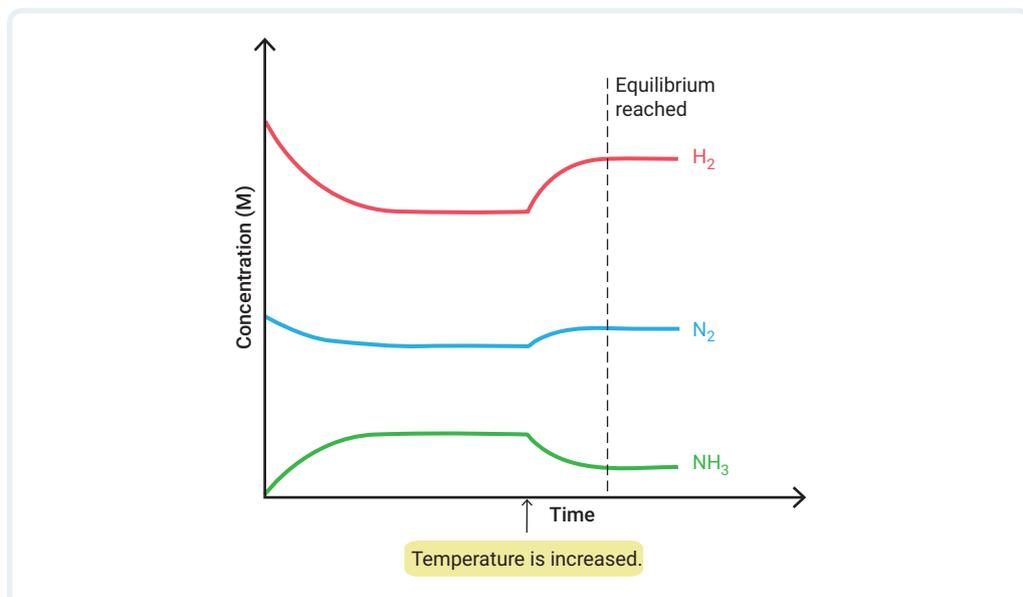

FIGURE 2.4.1 The effect of increasing temperature at equilibrium for the reaction involving the production of ammonia
- This will favour the reverse reaction, resulting in an increase in the concentrations of hydrogen and nitrogen gas and a decrease in the concentration of ammonia (Figure 2.4.1).